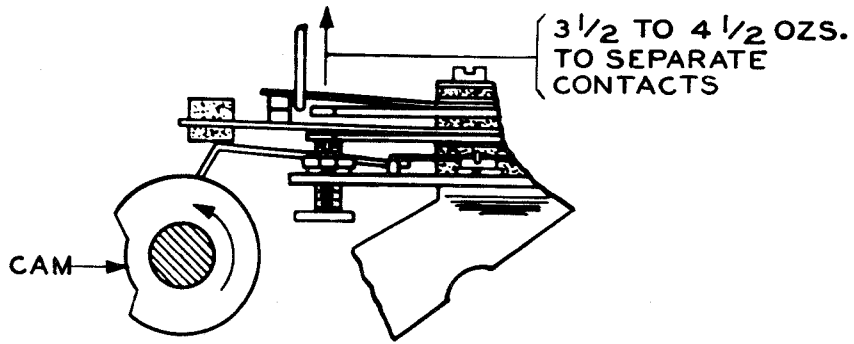

Figure 15
(5) With the transmitting-cam assembly manually rotated until the camfollower is on the high part of its cam and with a vertical upward pull applied under the upper contact-spring at the contact, it should require a tension of minimum 3-1/2 ounces, maximum 4-1/4 ounces to separate the contact-points, as shown in Figure 15.